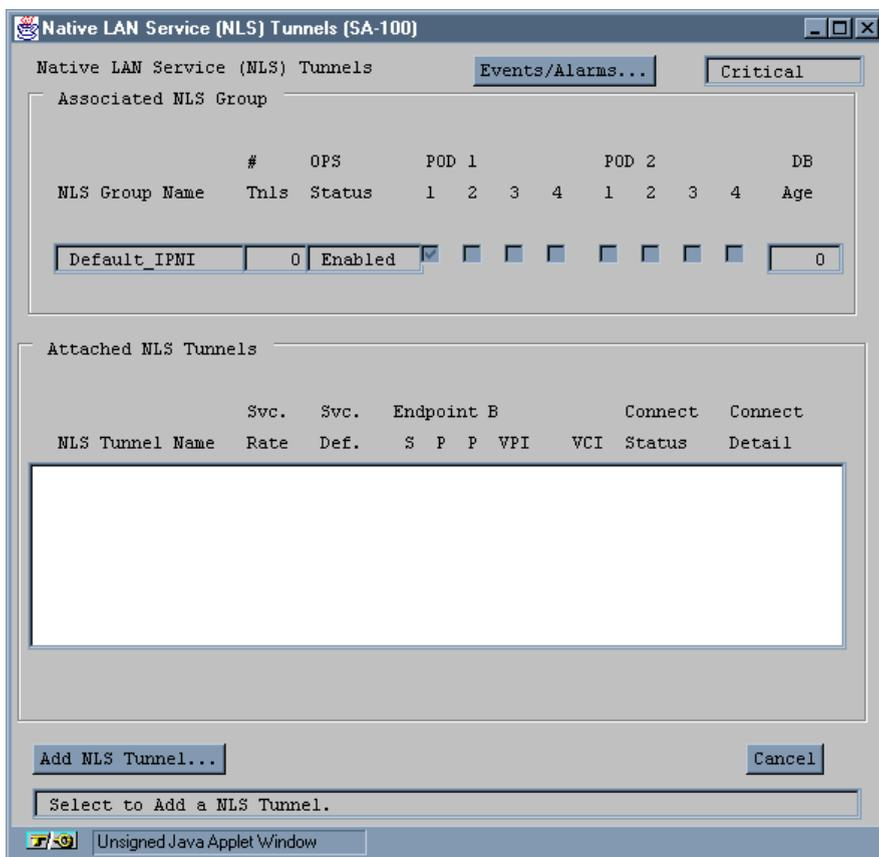
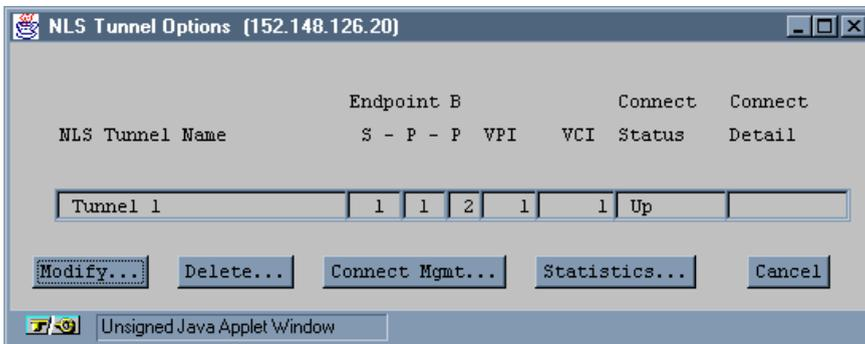

Figure 5-11. NLS Tunnels Window
Figure 5-13. NLS Tunnel Options Window
2. Choose the Tunnels button. The NLS Tunnels window appears (Figure 5-11).
1. Select the tunnel from the list of defined tunnels in the NLS Tunnels window. The NLS Group Options window appears (Figure 5-13), showing the Tunnel Name, Endpoint B Slot-Pod-Port, VPI, VCI, Connection Status, and Connection Detail (error code if any).
1. Select the tunnel from the list of defined tunnels in the NLS Tunnels window (Figure 5-11). The NLS Tunnel Options window appears (Figure 5-13):
To enable an NLS Tunnel from the NLS Tunnel window (Figure 5-11 on page 5-28):
1. Select the connection from the Attached NLS Tunnels list. The NLS Tunnel Options window appears (Figure 5-13).
1. Select the connection from the connections list in the Attached NLS Tunnels window (Figure 5-11 on page 5-28). The NLS Tunnel Options window appears (Figure 5-13).